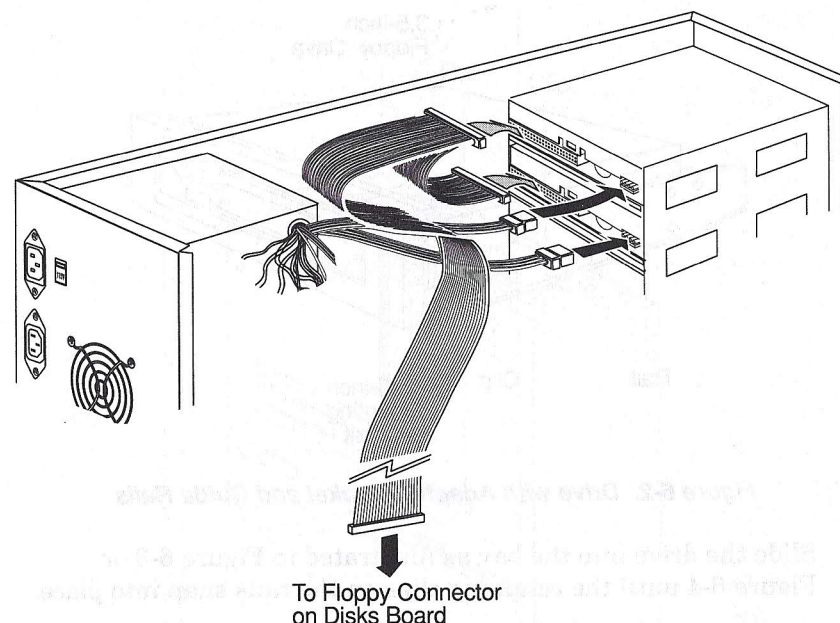

Figure 6-1. Front Drive Bay Ribbon and Power Cable Connections
5. Disconnect the power and ribbon cables from the existing drives in the front area (see Figure 6-1). Note the orientation of the connectors before you remove them so that you can replace them properly when you are done.